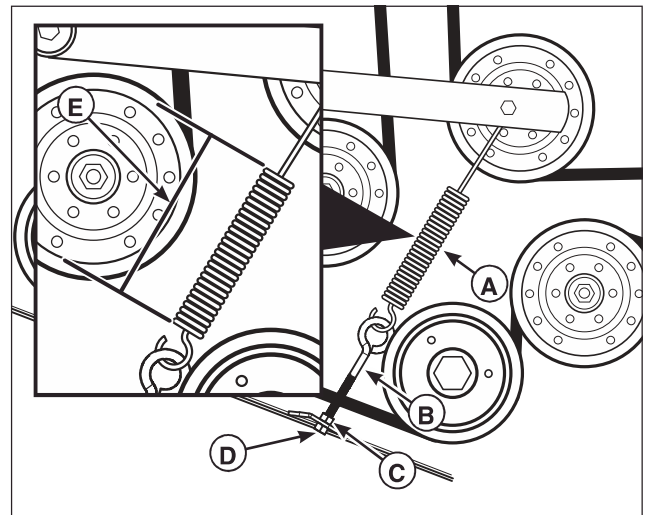

Figure 61. Mower Belt Idler Spring Length
3. Measure the coil length of the mower belt tensioner spring (A, Figure 61). The measurement should equal the measurement as indicated in the chart. If the measurement does not equal the measurement as indicated in the chart, adjust the mower belt idler spring length (E).